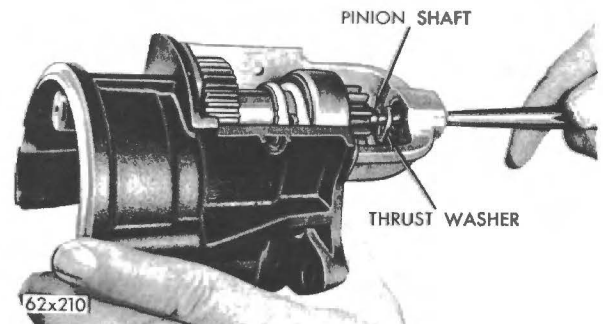
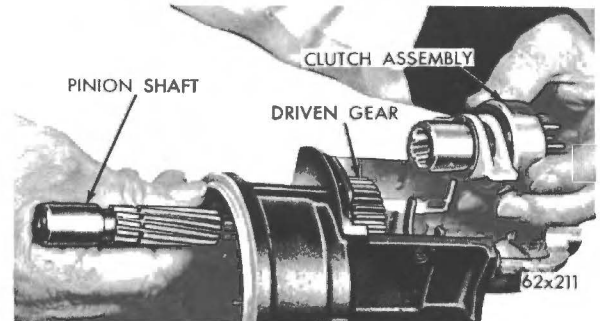
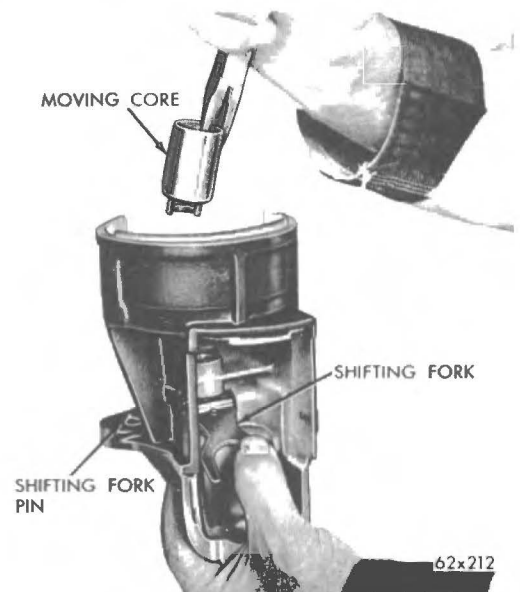

Fig. 16 Removing Pinion Shaft
Fig. 17 Removing Clutch Assembly
Fig. 18 Removing Moving Core
(21) Push the pinion shaft toward the rear of the housing (See Fig. 16) and remove the snap ring and thrust washers, clutch and pinion assembly, with the two shifter nylon actuators (See Fig. 17).
(22) Remove the driven gear and friction washer.
(23) Pull the shifting fork forward and remove the solenoid moving core (See Fig. 18).
(2) Install the solenoid moving core and engage the shifting fork (See Fig. 18).
(3) Enter the pinion shaft into the drive housing, and install the friction washer and drive gear.
(4) Install the clutch and pinion assembly (See Fig. 17), thrust washer, retaining ring and thrust washer.